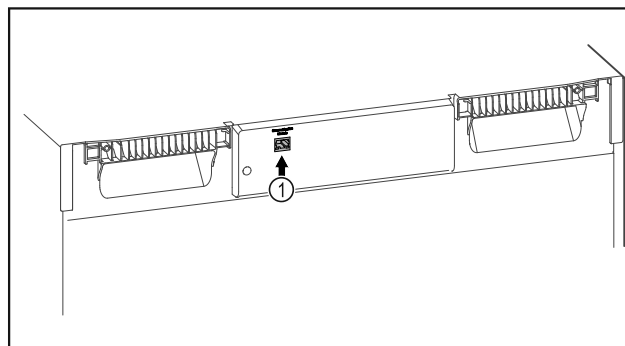

Fig. 89
- SmartModule Fig. 89 (1) is in use.